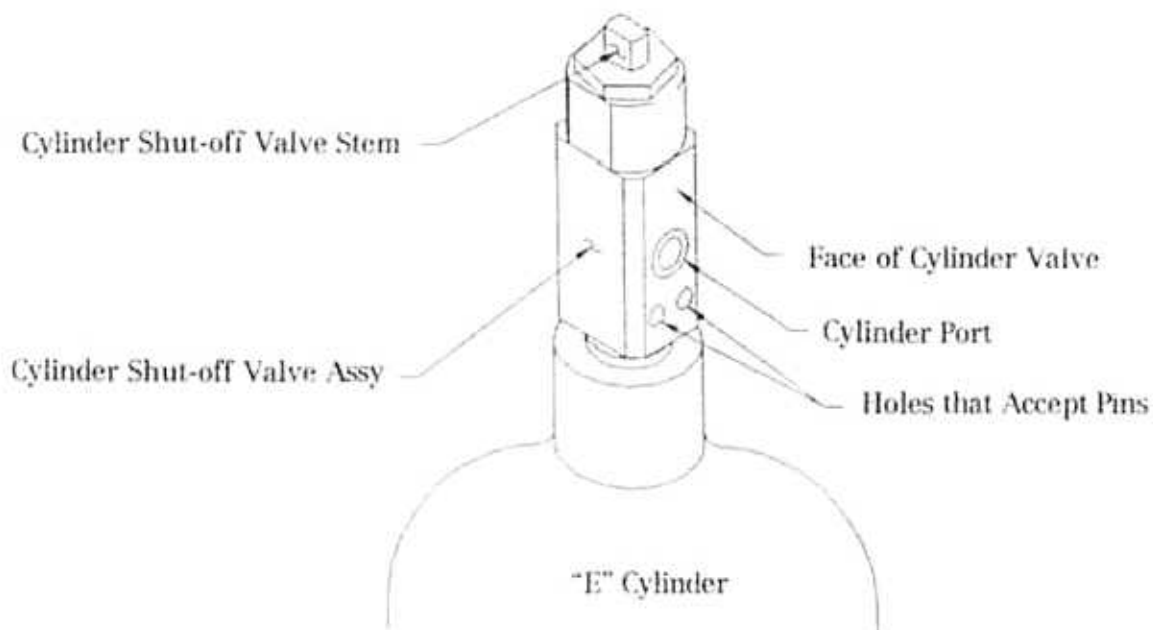

Figure 24
2. For portable systems utilizing "E" cylinder tanks, refer to Figure 24.